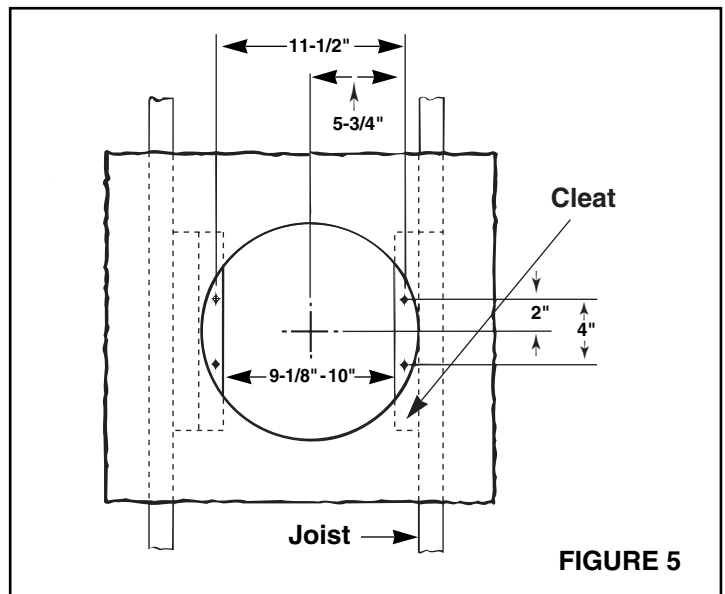

FIGURE 5
7. Refer to **Figure 5**. Install 2 x 4 cleats to both ceiling joists. In some cases it may be necessary to use more than a single cleat on one side. The distance between cleats must be at least 9 1/8" but not more than 10".